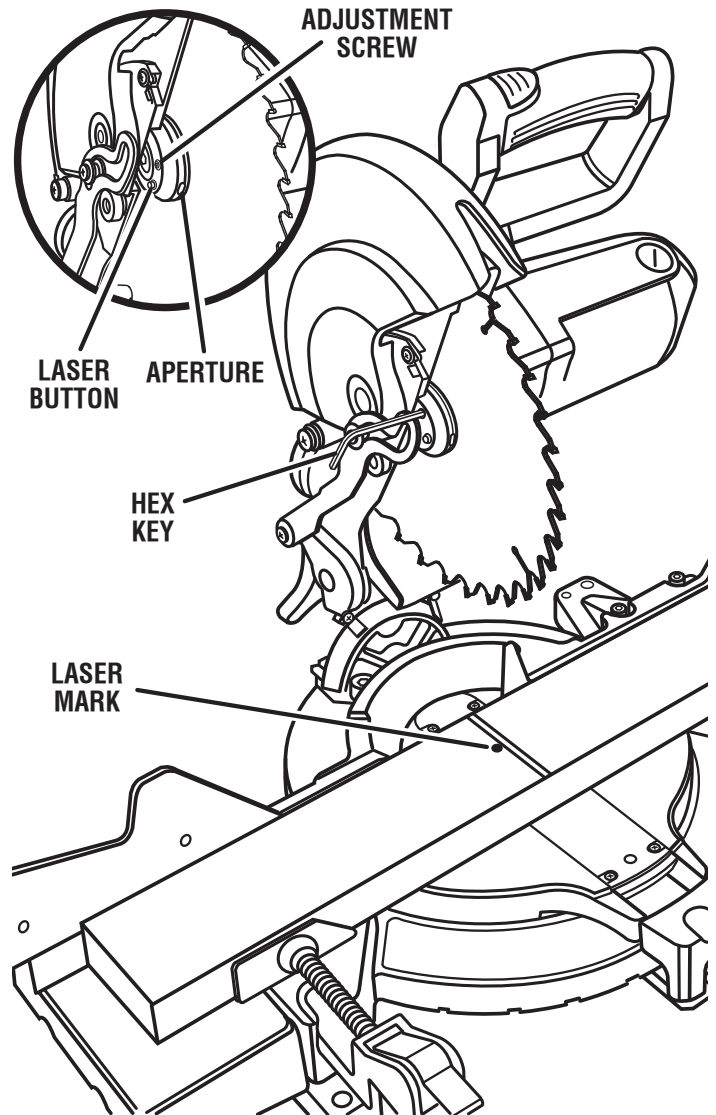

Fig. 34
See Figure 34.
- Rotate the blade by hand until you can push and hold the laser button and the laser is near the center of the workpiece as shown in figure 34.
- To adjust the laser, turn the adjustment screw counter-clockwise or clockwise using the hex key (1/16 in.) provided.